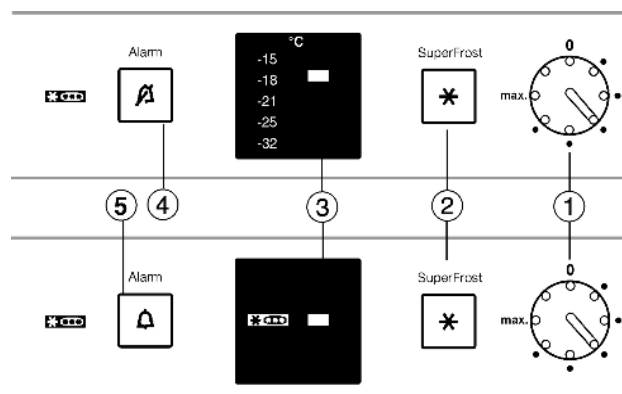

Fig. 2
- ▶ Turn the temperature control *Fig. 2 (1)* with a coin to the right.
- ▶ Press alarm button *Fig. 2 (4)*.